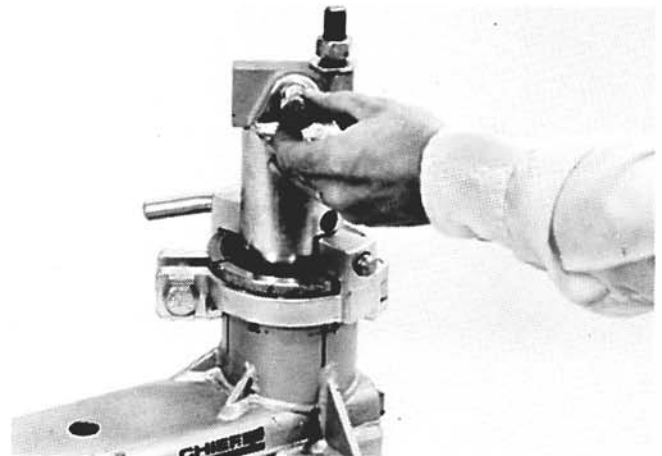

Figure 2
- 3) Secure 90 degree adapter by reinstalling clamp bar tube bolt. (See Figure 2.)